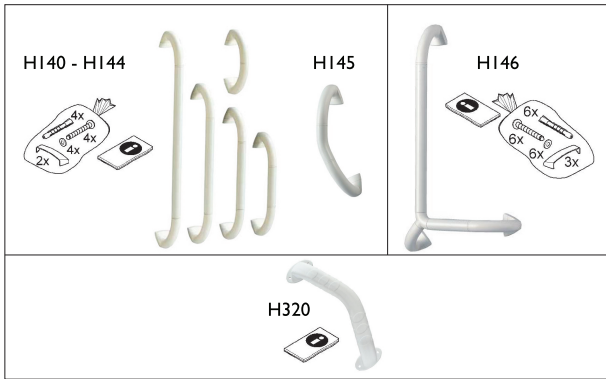

Fig. 1
1.4 Scope of delivery (Fig. 1)